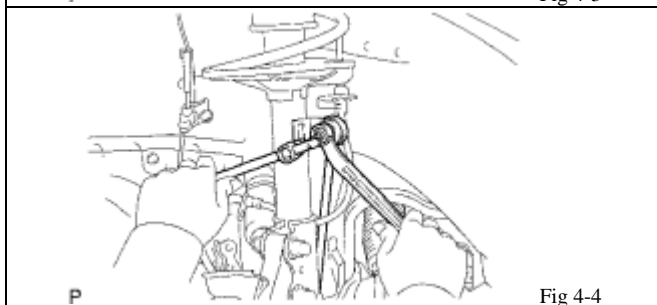

Fig 4-4
- (h) Disconnect front sway bar link assy. (Fig 4-4)